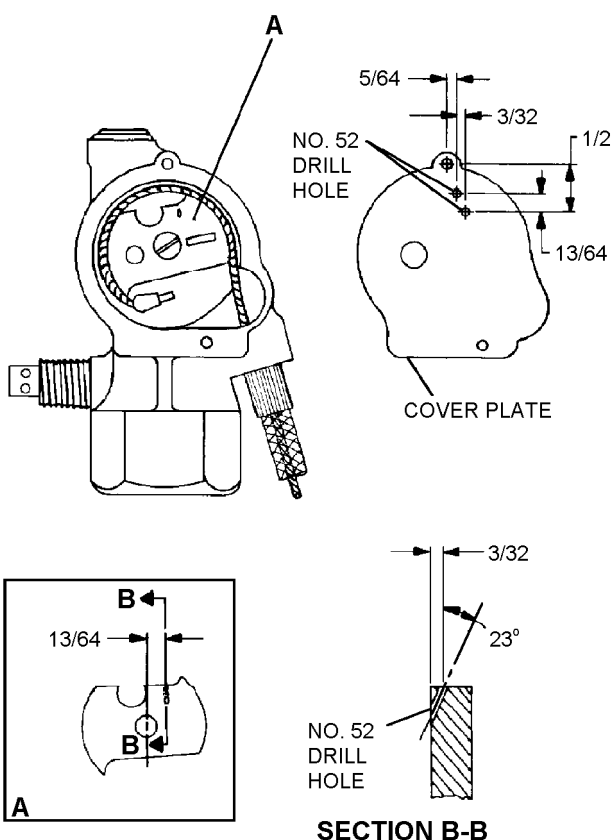

Figure 11-13. Drilling A128 Inflation Valve
3. Using a no. 52 drill, drill two holes in cover plate. See figure 11-13.
6. Using a no. 52 drill, drill a hole at a 23° angle in the valve sheave. See figure 11-13.